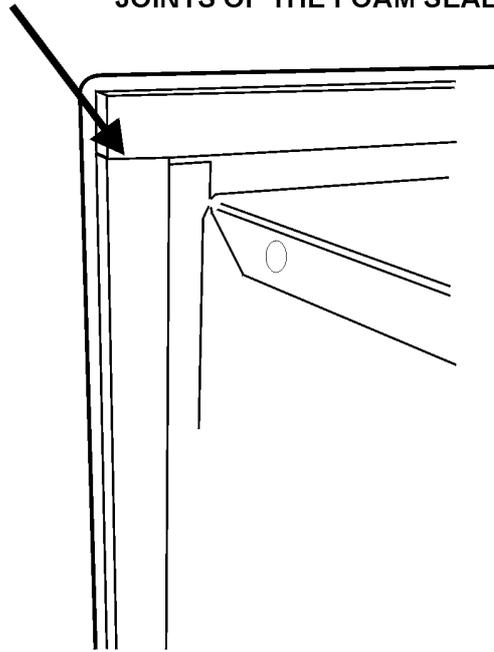

Figure 3. Fitting the foam seal
2. There is a length of self adhesive foam seal supplied with the chamber box. This will need to be fitted to the outer rear edges of the side and top flanges of the chamber box. Ensure that there is no gap between the foam seals where they meet at the top and bottom flange (See figure 3)